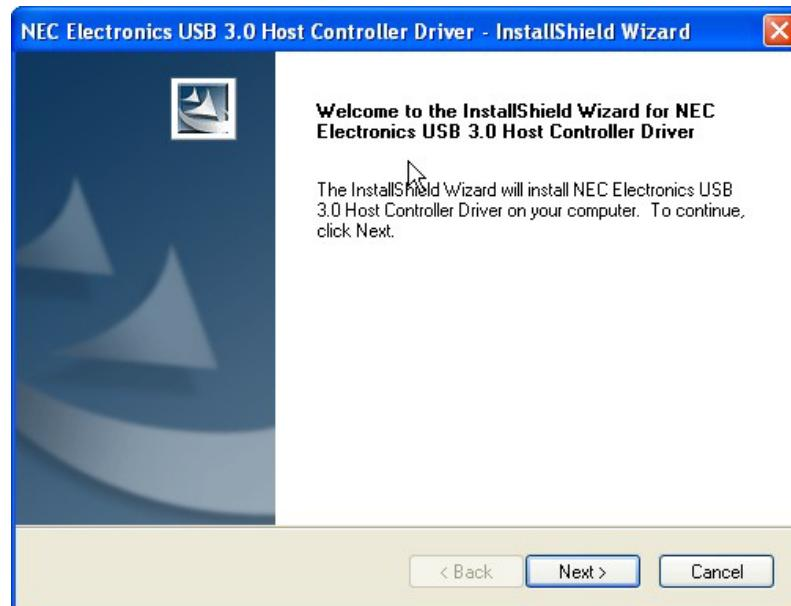

Figure 6-28: USB 3.0 Driver Welcome Screen
Step 4: A **Welcome Screen** appears (**Figure 6-28**).